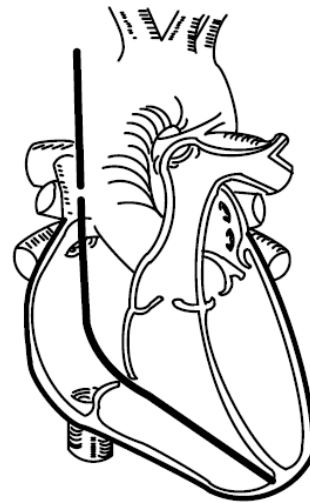

Figure 14
- Remove the stylet completely. Adjust the lead so that it lies in the desired position in the ventricle (Figure 14)